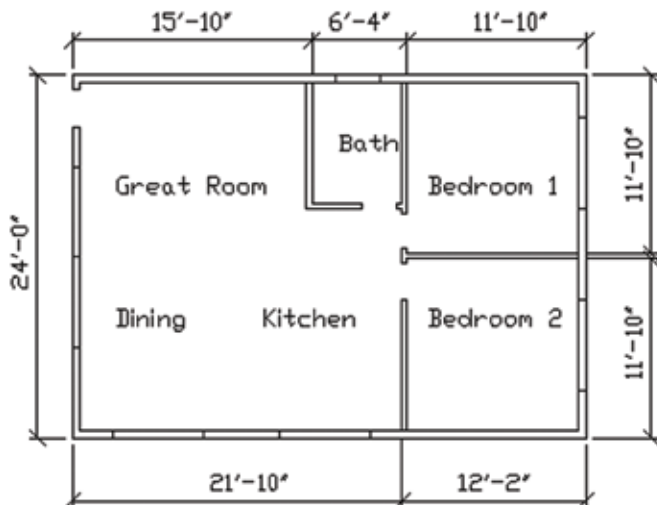

Figure 12.7
4. **Drag your cursor down** until the location is similar to the one shown in Figure 12.7, then **pick**.
- A dimension should appear which looks very similar to the one in Figure 12.7.
Continue dimensioning the remaining dimensions as shown in Figure 12.7.